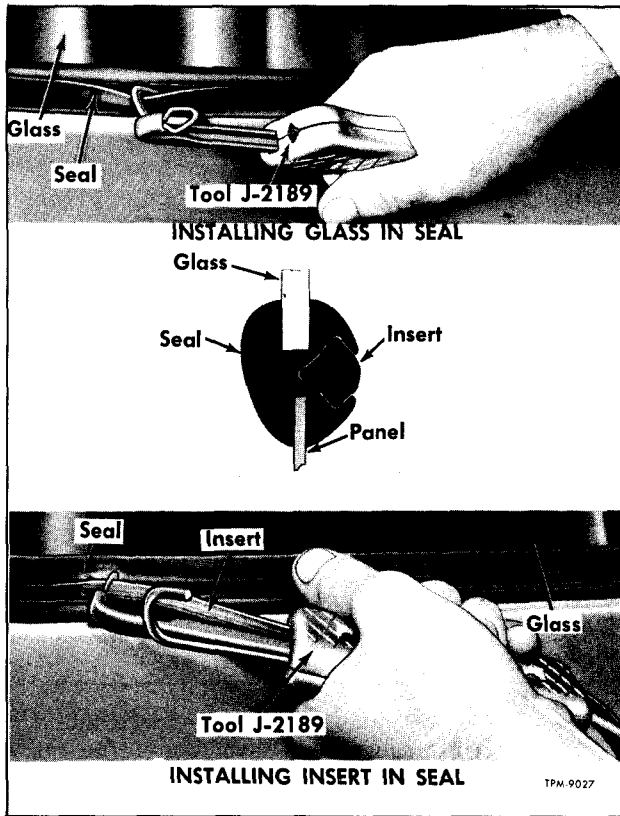

Figure 1—Installing Insert Retained Glass (Typical)
NOTE: Windshield glass is retained in cab opening with insert-type rubber seal as illustrated in figure 1. A single windshield glass is used in the conventional 7500 series truck whereas two glass sections are used on all other models.
2. With aid of assistant, raise windshield glass to outside of weatherstrip, then hook end of installer tool (J-2189) in glass groove of weatherstrip as shown in figure 1. Move tool around glass to force outer lip of weatherstrip over edge of glass.
3. Slightly moisten insert retainer with diluted liquid soap to facilitate insert installation. Thread end of insert through handle and loop of installer tool (fig. 1). Push tool loop and end of insert into groove of seal. Using a hitching movement of tool to avoid elongating insert, feed rubber insert into tool handle while proceeding around weatherstrip. If a new insert is being used, allow sufficient overlap to assure a tight joint; then butt insert into weatherstrip groove.
Rear window glass is retained by means of rubber seal and seal insert (fig. 1). No sealing compound or cement is used.
4. Position glass to seal and insert hood end of installer tool (fig. 1) into seal groove. Move tool around glass to force outer lip of seal over glass.
5. Thread end of rubber insert through handle and loop of installer (fig. 1). Push tool loop and end of insert into groove at bottom center of window. Feed in the rubber insert while proceeding around window. Use a hitching movement to avoid elongation of insert.